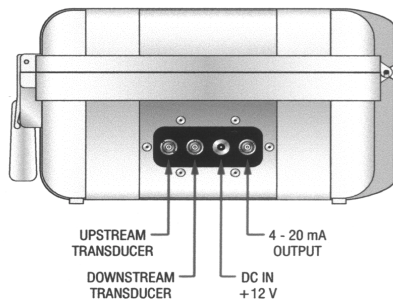

Figure 1.4
2. Connect the appropriate wires to the corresponding connections on the transmitter. The transducer cable has markings of UPSTREAM and DOWNSTREAM to assist in the installation process. The UPSTREAM transducer is the one located closer to the direction from which fluid flow normally comes from (The fluid normally passes the UPSTREAM transducer before passing the DOWNSTREAM transducer.) If the transducer wires are connected backwards, a negative flow indication will be observed on the flow meter display. See **Figure 1.4** or the Wiring Diagram located on the inner door of the transmitter.
The 12 Volt DC power converter and 12 Volt cigarette-style power cord connect to the socket connection located on the side of the enclosure. See **Figure 1.4**. A fully charged battery will provide up to 24 hours of continuous operation before recharging will be necessary. When the battery level has decreased to a point where recharging is required, the LOW BATTERY indicator will illuminate on the front panel. At that point, the meter will only operate a short time more until it automatically turns itself off—preventing excessive battery discharge that can damage